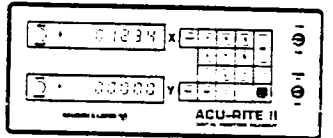

Figure 8
5. To preset the incremental mode to the above value, push the plus or minus key, depending on whether the preset value is to be positive or negative (Figure 8). The PRESET light will go out and the display will indicate the preset machine coordinates.